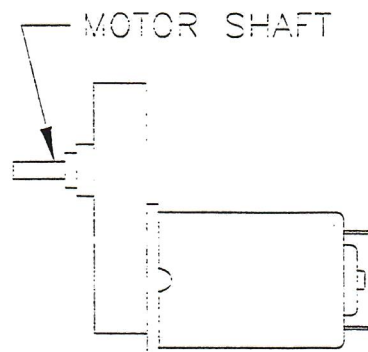

FIGURE 8
- Using the ALCOHOL WIPES (P/N 20-10211) supplied with the REPAIR KIT (P/N A-20417), thoroughly clean the motor shaft. Allow the cleaned motor shaft to air dry (30 to 45 seconds). (See Fig. 8)